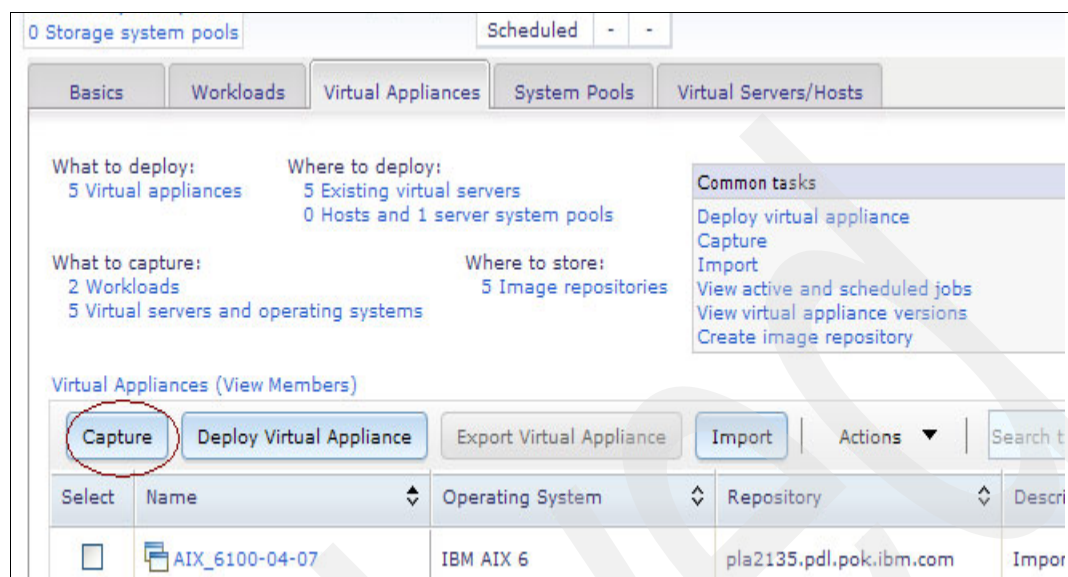

Figure 5-16 Capture the virtual appliance under the VMControl window
1. To capture the virtual appliance image, click **System Configuration** → **VMControl** → **Virtual Appliances** tab, as shown in Figure 5-16 on page 177.